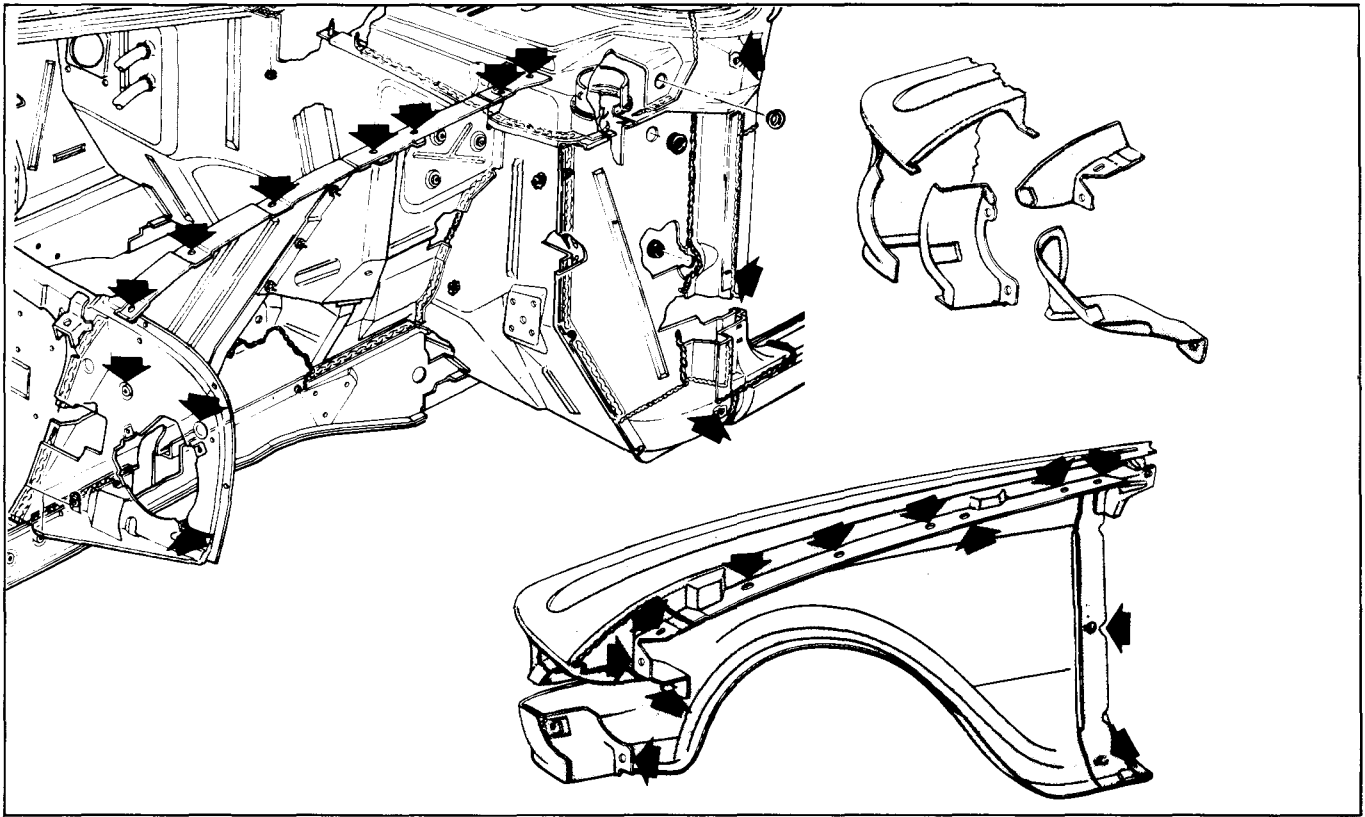

Fig. 11-1—Front Fender Attaching Points—(60C-8008)
2. Remove fender to radiator shroud retaining bolts and stone deflector to fender bolts. See figure 11-1.